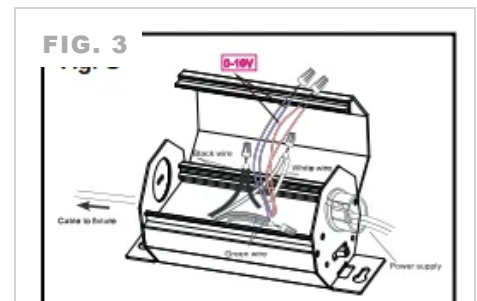

Fig. 3 · Hardwire box wiring detail
- 03 Using wire nuts, connect green ground wire of cable to green wire on box, black wire of cable to black wire on box, and white wire of cable to white wire on box. (FIG. 3)